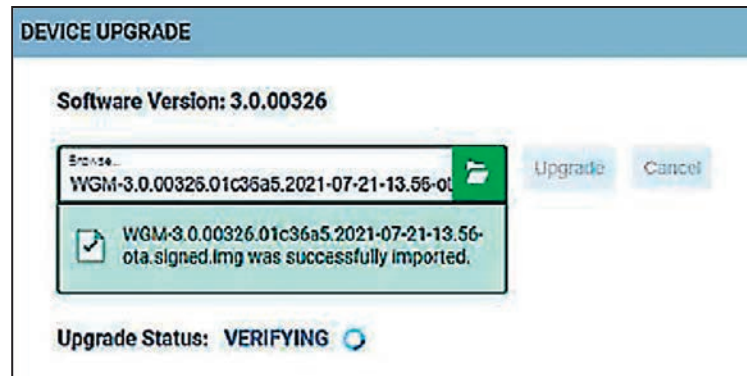

Figure 14. Verifying the digital signature.
STEP 4. The communication module verifies S&C Electric Company digitally signed the firmware. This step is automated. See Figure 14.